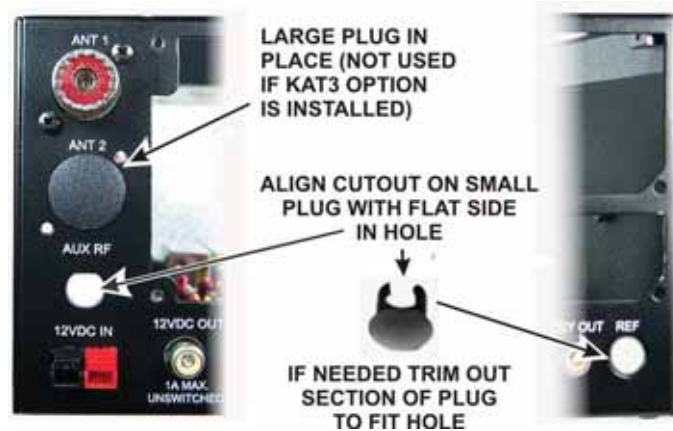

Figure 30. Installing Rear Panel Hole Plugs.
- If you installed the KANT3 board, the hole for the ANT2 jack is not used. Insert the larger of the hole plugs in the opening until it clicks in place (see Figure 30).
- Insert one of the smaller hole plugs in the REF connector at the bottom right. Align the open side of the plug with the flat side of the hole as shown in Figure 30. If the plug does not have a cutout, use your diagonal cutters to clip out a section of the plug so it will fit into the hole. Similarly, install the other small plug in the AUX RF opening if the subreceiver connector was not installed.